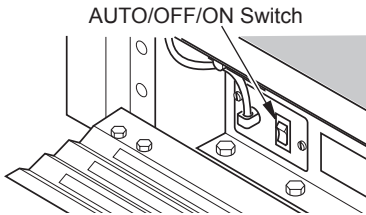
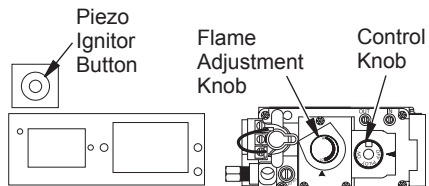

Figure 44 - AUTO/OFF/ON Blower Switch
Figure 45 - Control Knob and Ignitor Button Location (Shown as Supplied - No Control Options)
3. Press in and turn control knob clockwise to the OFF position (see Figure 44).
4. Wait five (5) minutes to clear out any gas. Then smell for gas, including near the floor. If you smell gas, **STOP!** Follow "B" in the safety information, column 1. If you don't smell gas, go to the next step.
5. Press in and turn control knob counter-clockwise to the PILOT position. Press in control knob for five (5) seconds (see Figure 45).